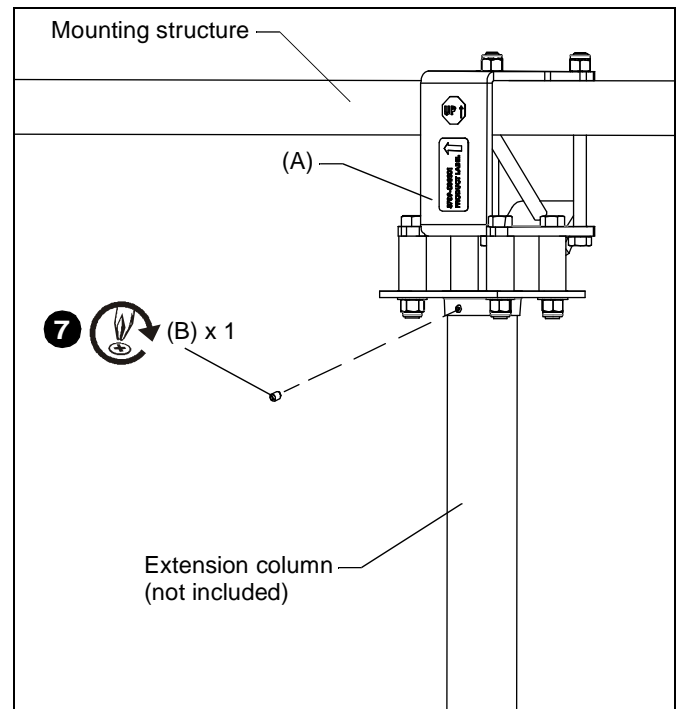

Figure 6
7. Secure extension column using 10-24 x 1/4" set screw (B). (See Figure 6)